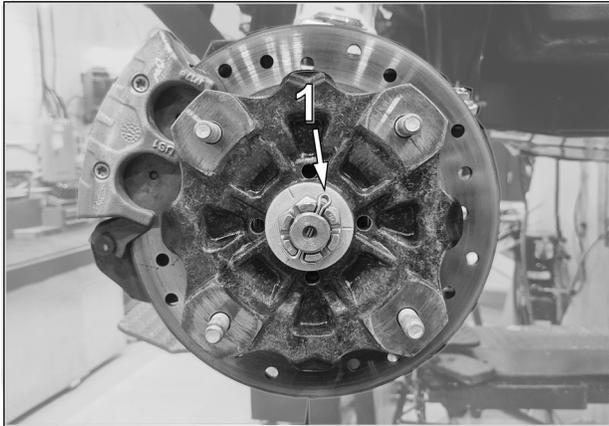

Fig. 8
8. Make sure that the cotter pin locking the wheel hub's castle nut (1) will not interfere with the Track System hub during installation. There must not be any resistance when the Track System is installed on the vehicle's wheel hub. See Fig. 8